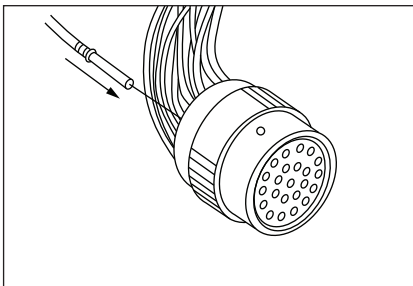

Figure 1
- 4A.(Non-Ford Application) Insert Jumper Cable Contact (From Kit 050794) into OE Harness Connector(Cavity K).(Figure 1)